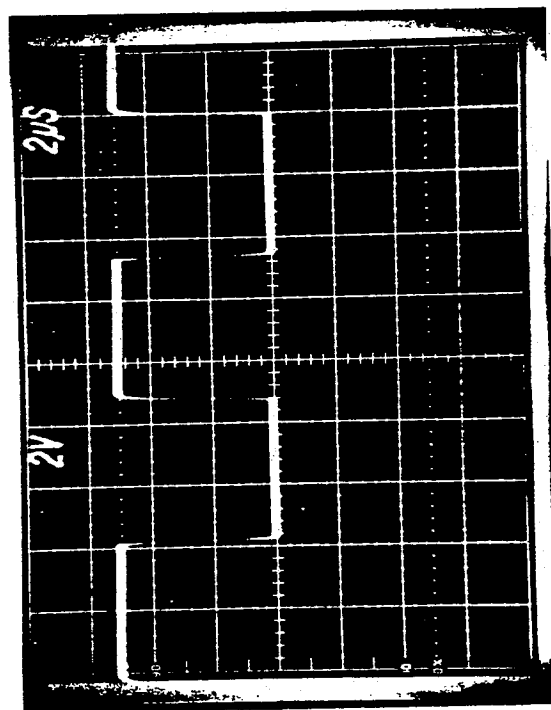

Figure 5-3
5. Check "108000" on Models 3002 and 3003; it should be approximately as shown in Figure 5-3.